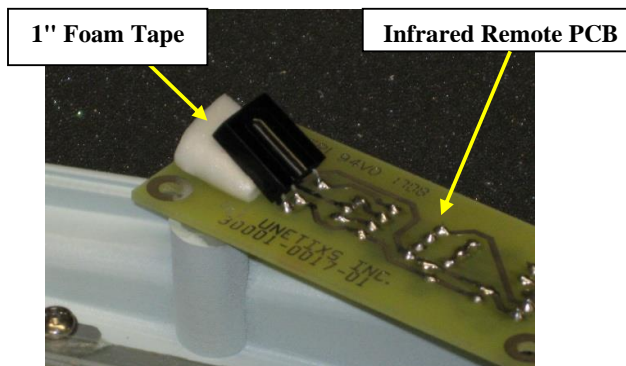

Figure 34
- 13.10. Cut a 1/2" of 1" Foam Tape (McMaster.com part#7598A72 or equivalent) and fold in half. Place under the IR as shown in Figure 34.